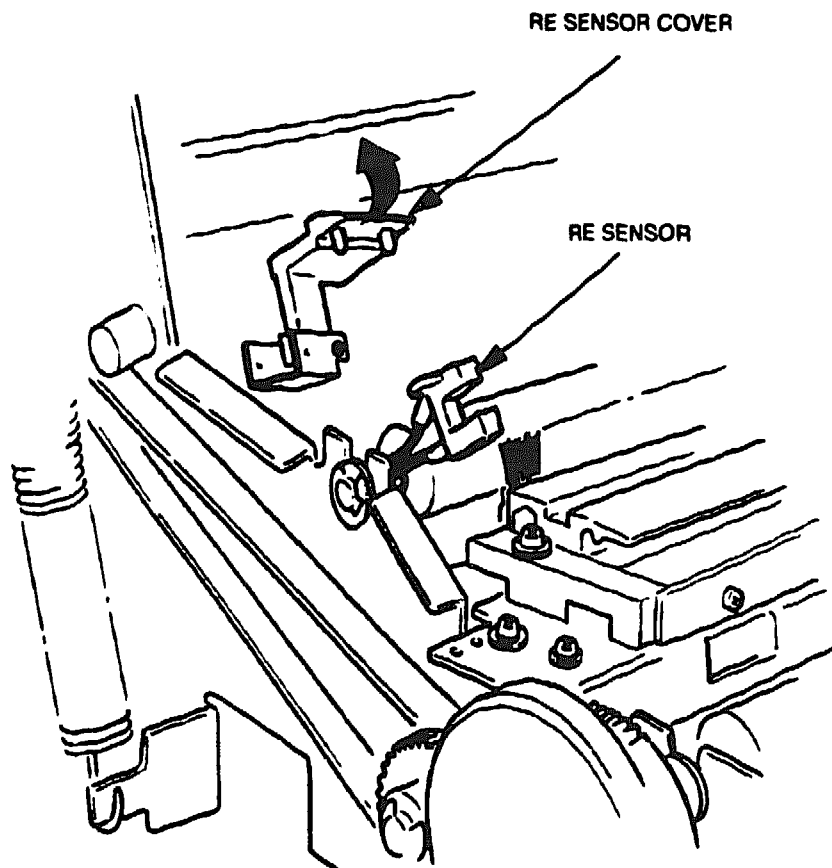

Figure 6-78 RBE Sensor and RBE Sensor Cover
4. While being careful not to damage the sensor, gently remove the RBE sensor from the RBE sensor cover (see Figure 6-78).